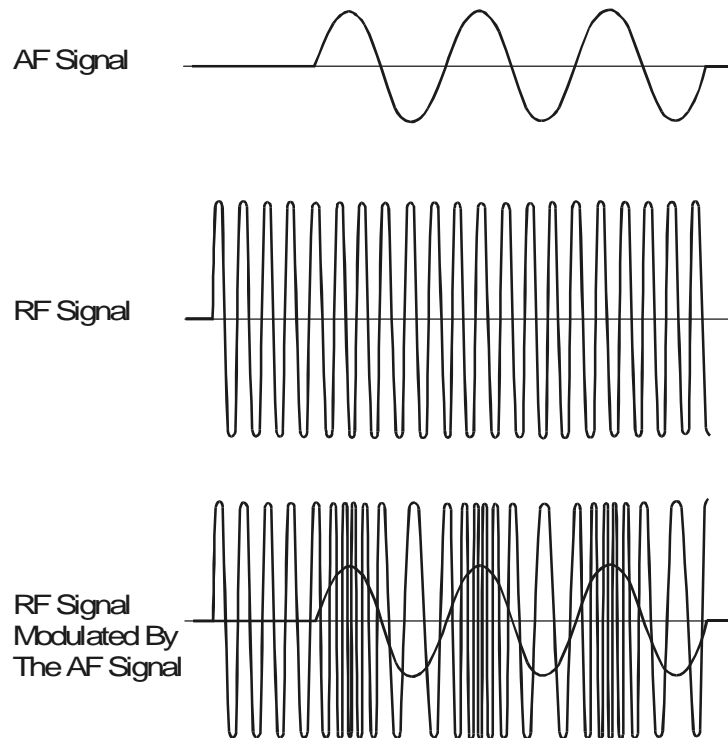

Figure 63: Generating An FM Signal
Frequency modulation (FM) is a method of placing a signal onto a high frequency carrier wave for transmission. The signal is usually an audio signal, such as voice or music, at a low frequency referred to as the audio frequency (AF). This is also referred to as the modulating signal since it is used to modulate the carrier wave. The carrier wave is a high frequency signal that is used to carry the audio signal to a remote receiver. This is referred to as the radio frequency (RF) signal. For FM, the frequency of the RF signal is varied instantaneously around the center frequency in proportion to the AF signal. As the voltage level of the AF signal increases, the frequency of the RF signal is increased. As the AF voltage decreases, the frequency of the RF signal is decreased. Figure 63 illustrates this.